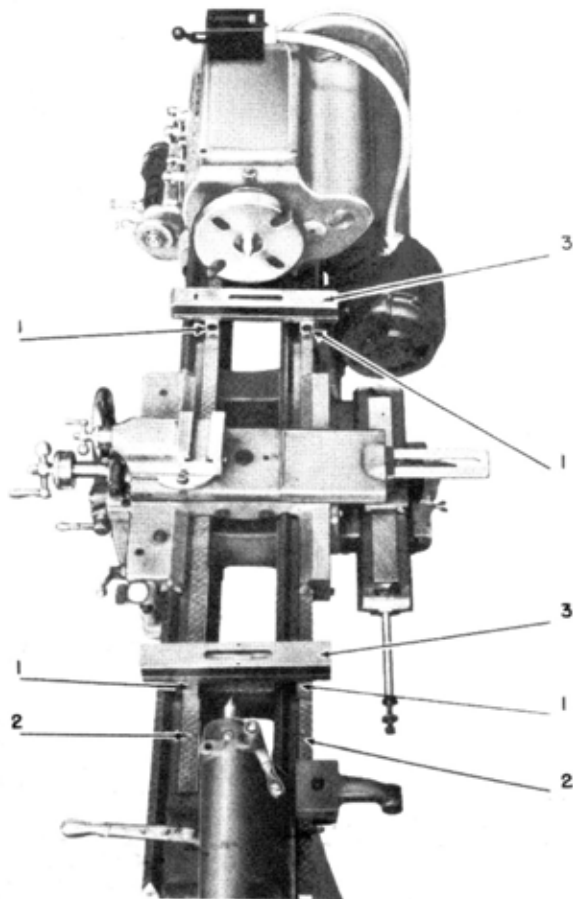

FIG. 2—LEVELING THE REGAL
Refer to figure 2. It is very important to level the lathe properly. Although the bed is heavy, it can easily be sprung if not properly leveled. A steel plate approximately 3/8 to 1/2" thick x 4" sq. may be placed under each leveling screw.
2. Place two parallel strips (1, Figure 2) on the front and rear flat ways (2) as near the headstock as possible. Do not place level across vee ways.
3. Place level (3) across the two strips as indicated.
5. Move the two parallel strips to the tailstock end as shown in figure 2, and place the level across the parallel strips.